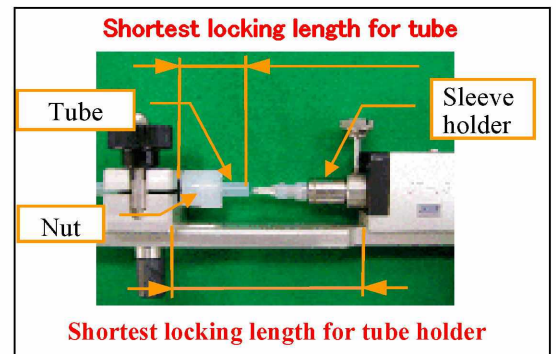

Fig. 24 - Shortest locking length
- Loosen the knob located at the bottom of the tube holder and then lock the tube holder at its shortest locking length (see Fig.24 and Table 13).
- Open the clamp and install the tube with union nut passing through it in the tube holder so that the shortest locking length for the tube (see Fig.24 and Table 13).